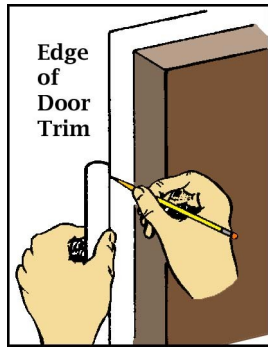

Figure 5
- Step 6** Slide the Fin Locator Guide over the body tube and mark the tube for four fins and the launch lug. As shown in Fig. 5, extend these upward along the tube using the trim around a door, or a piece of brass angle stock. The fin lines should be 3" long, and the launch lug line should be 4" long. Measure forward from the rear edge of the tube 1.75" and mark the lug line at this location.